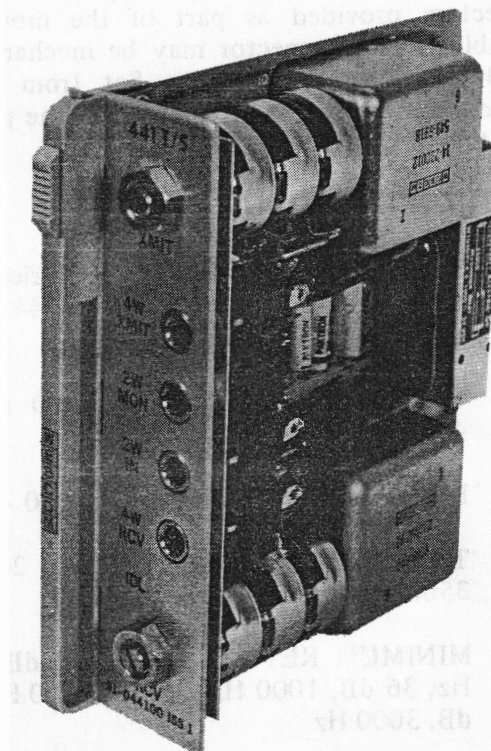

Figure 1. 441 Terminating Set
1.02 The 441 and 442 Terminating Sets (Figure 1) are plug-in, printed-circuit modules used to provide two-wire termination of a four-wire facility.